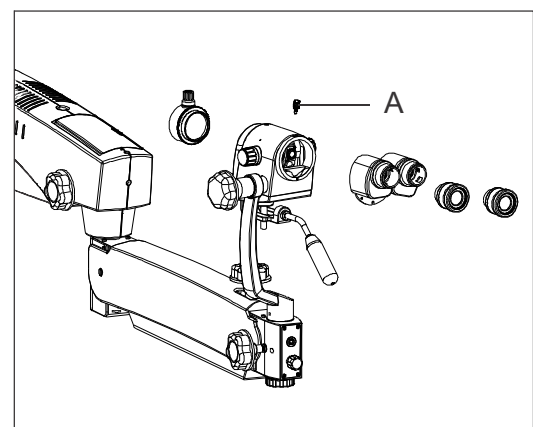

Fig. 6
7.5 Install the binocular head and eyepieces on the magni-changer. Secure the binocular head with head locking screw shown as (A) in figure 6